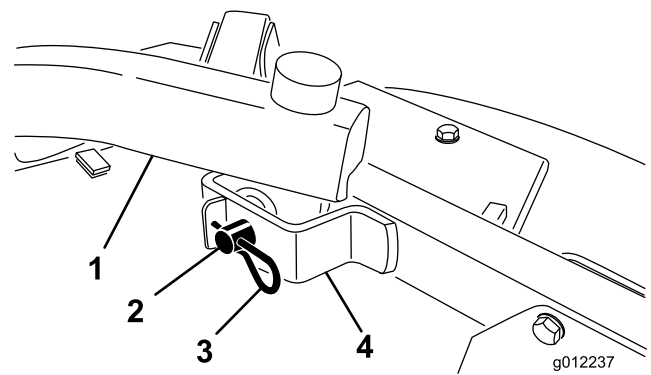

Figure 24
4. Remove the hair pin cotters and clevis pins securing the lift arms to the castor arm brackets (Figure 24).